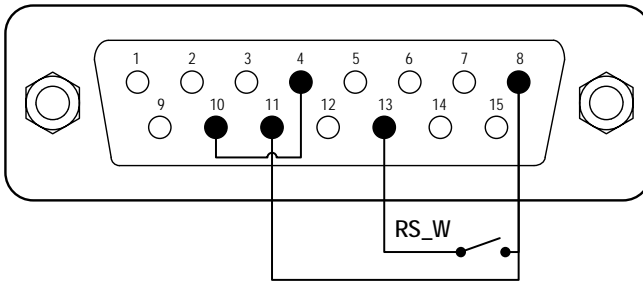
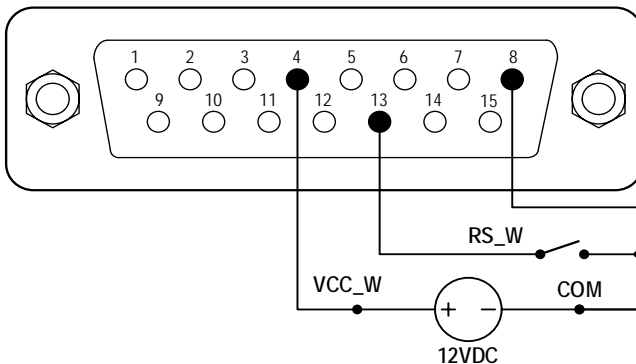

Figure 22. Footswitch with internal 12V Power Source
Figure 23. Footswitch with External 12V Power Source
1) Switch the power of the pump off. Wire the DB15 connector as shown on Figure 22 or Figure 23, and connect it to the DB15 port on the rear of the pump.